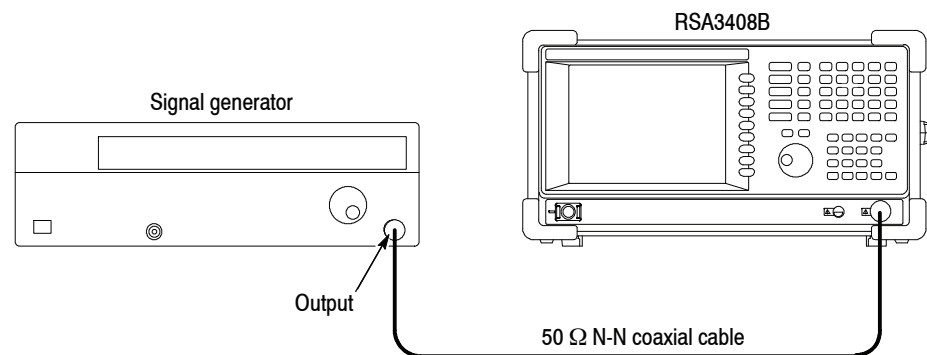

Figure 4-12: Test hookup
- b. Hook up the signal generator:** Connect the generator output through a 50 Ω N-N coaxial cable to the analyzer **INPUT**. See Figure 4-12.